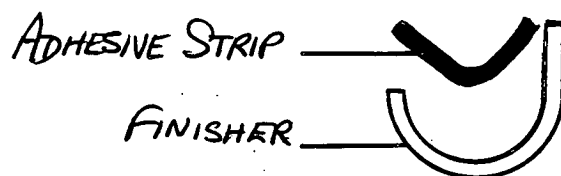

Fig. 2.
2. If the finisher is fitted with tags, these should be carefully removed. Place a single strip of adhesive into the finisher section, pinching it slightly as shown on illustration, Fig. 2, to avoid excess adhesive being extruded as the finisher is fitted.
Remove the rubber insulator from 'P' clip part number A075 Q 6013Z, slide the clip over the rubber insulating sleeve at the lower part of the clutch cable and secure the clip to the RH front of the sump. See Fig.2 . Fit the clutch cable insulator Bush Assembly as detailed in Service Bulletin Number 1974/17.